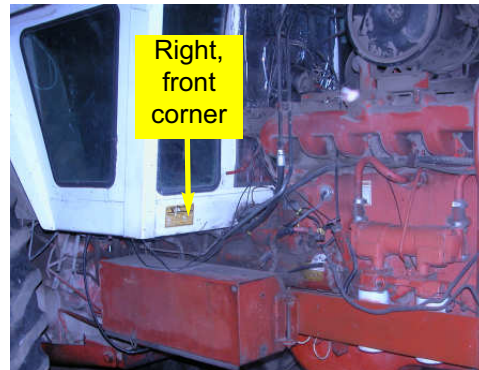

Figure 2a. Right, front corner of cab.
- a. Locate the right, front corner of the cab. (Figure 2a.)